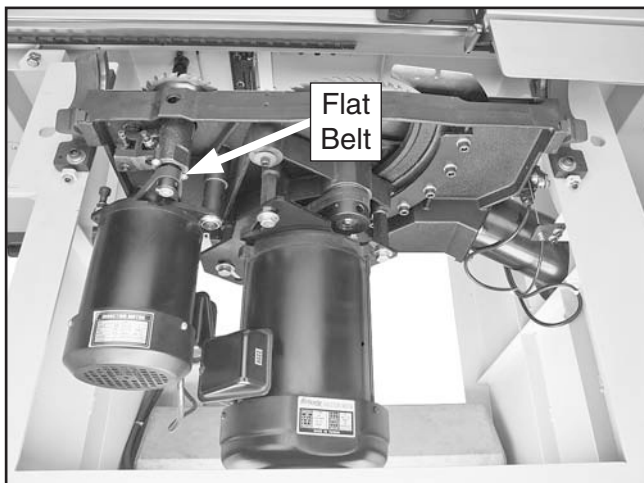

Figure 120. Scoring motor flat belt.
2. Lift up on the scoring motor, roll the old V-belt off the pulleys (see **Figure 120**).